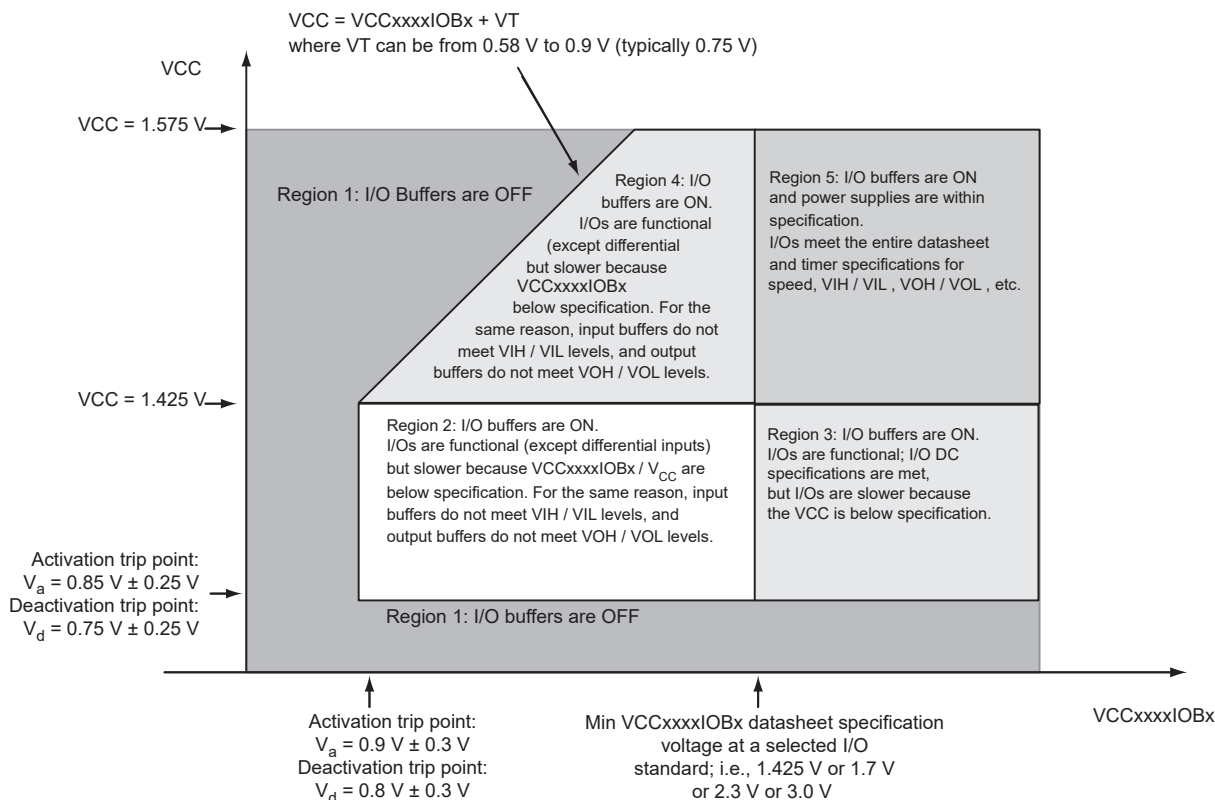

Figure 2-1 • I/O State as a Function of $VCC_{xxxxIOBx}$ and VCC Voltage Levels
Sophisticated power-up management circuitry is designed into every SmartFusion cSoC. These circuits ensure easy transition from the powered-off state to the powered-up state of the device. In addition, the I/O will be in a known state through the power-up sequence. The basic principle is shown in Figure 2-1 on page 2-6.
1. VCC and VCCxxxxIOBx are above the minimum specified trip points (Figure 2-1 on page 2-6).
The Microsemi SoC Products Group recommends using monotonic power supplies or voltage regulators to ensure proper power-up behavior. Power ramp-up should be monotonic at least until VCC and VCCPLLx exceed brownout activation levels. The VCC activation level is specified as 1.1 V worst-case (see Figure 2-1 on page 2-6 for more details).